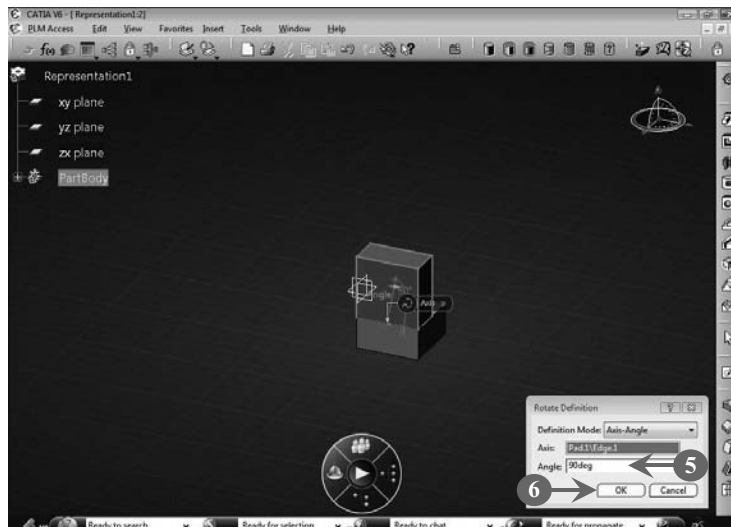

FIGURE 3.93
5. Enter the angle of rotation as 90 deg (**Figure 3.93**). The preview of the rotated solid model is displayed in Figure 3.93.
6. Click the **OK** button, as shown in Figure 3.93: